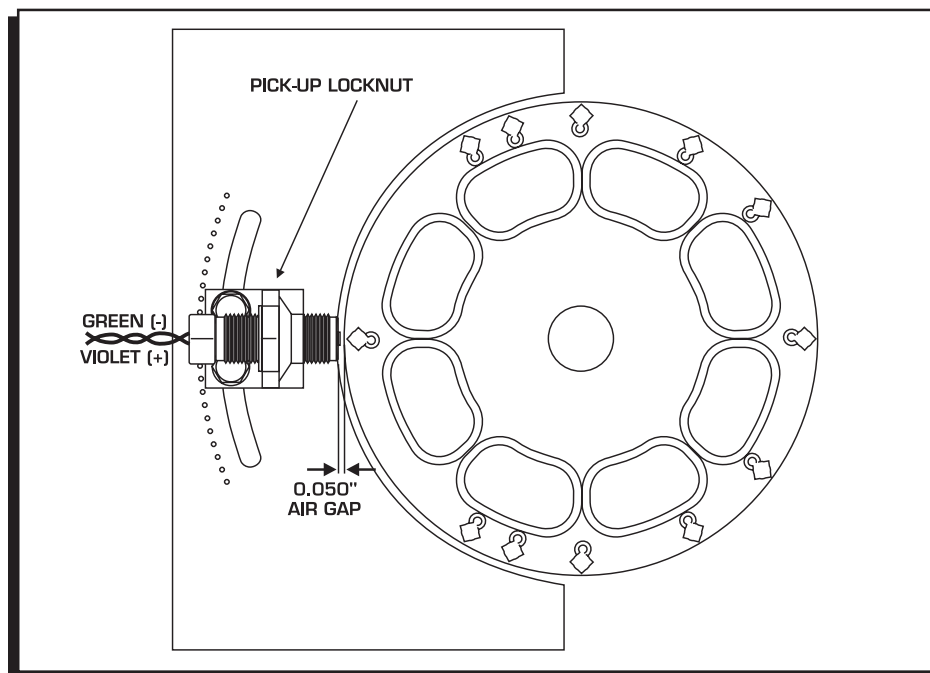

Figure 5 Setting the Pickup Air-Gap.
4. Install the pickup and lock nut. Set the air-gap to .050"-.080" (Figure 5).